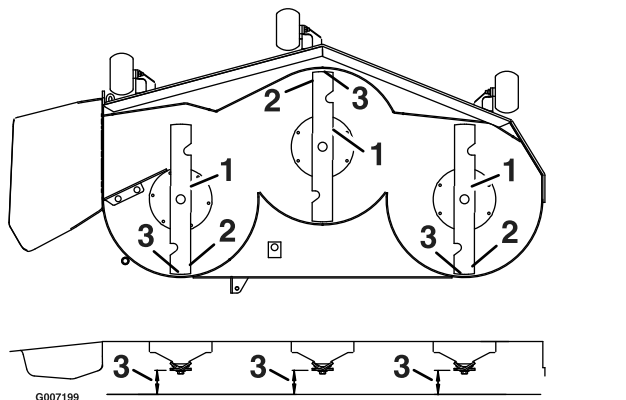

Figure 71
3. Carefully rotate the blades so they are facing front to rear (Figure 71).
4. Measure from the tip of the front blade to the flat surface and the tip of the rear blade to the flat surface (Figure 71). If the front blade tip is not 1.6-7.9 mm (1/16-5/16 inch) lower than the rear blade tip, continue to the Leveling the Mower Deck procedure.